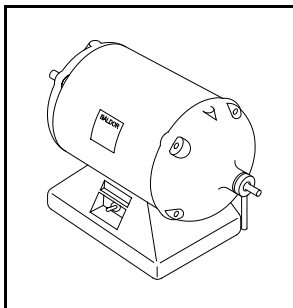
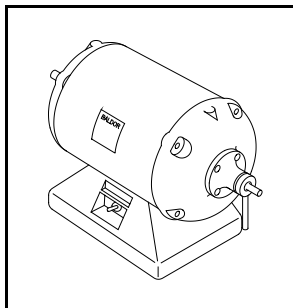

Figure 4.
Figure 5.
3.1 If you have a lathe with a chuck ejector similar to the one pictured in Figure 4, you must replace the whole end plate using a Q237 or Q239 adapter. Go to section 8.0, REPLACE THE END PLATE, before continuing. If you have the removable ejector assembly pictured in Figure 5, you may continue to the next step.